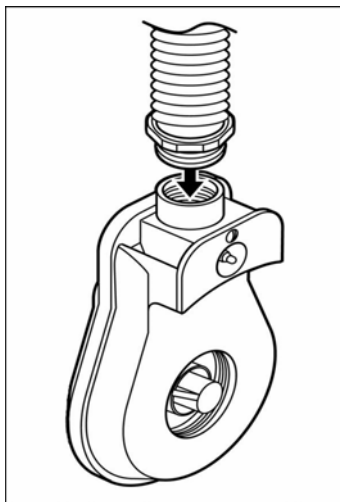

Fig: 4
1. If using the H-115, GVP-122, L-122 or GVP-123 breathing tube, screw the threaded end into the outlet port of the GVP-100 as shown in Figure 4.